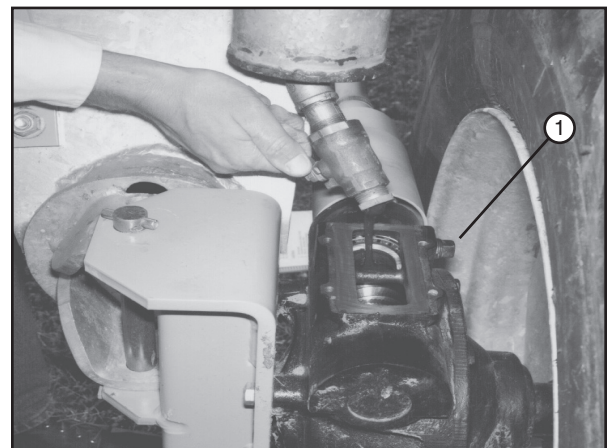

Figure 89-3 1. Check Plug
- Fill gearbox to the top of worm gear shaft or remove the check plug and fill until the oil begins to flow out of the check plug hole. See figure 89-3.